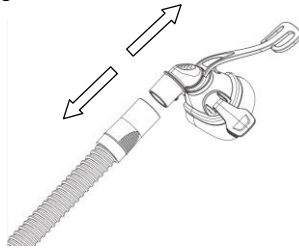

Fig. 16-6
(3) Hold both the cuff of the air tubing and the swivel of the mask, then gently pull them apart as shown in Fig. 16-6.